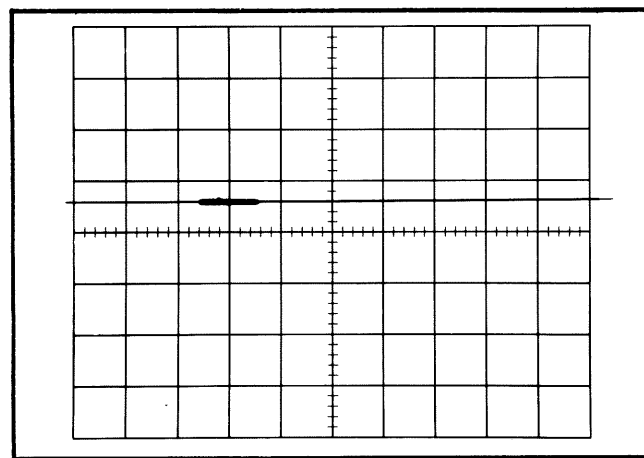

Fig. 17. Delayed sweep intensification pulse.
e. An intensified portion should appear on the crt (see Fig. 17). If the display appears only as a shortened trace, increase the INTENSITY slightly until the complete trace, showing an intensified portion, appears.